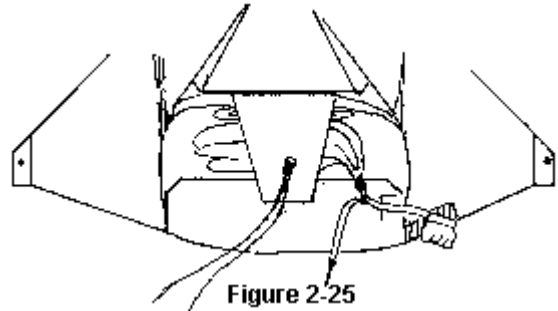

Figure 2-25
**Step 29** Thread the pull-up cord through the #2 sub flap grommet and pull the loop through as shown in *Figure 2-25*.